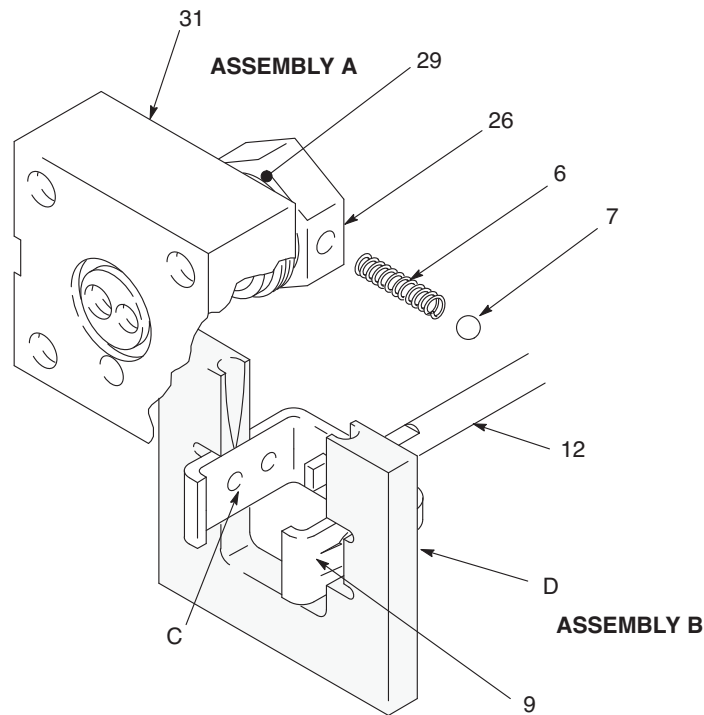

FIG. 11
13. Lay Assembly A and Assembly B on the work bench. (FIG. 11)
14. Slide Assembly B into the center of the tool (D). Align the upper detent holes (C) of the guide yoke (9) with the center line of the tool (D). (FIG. 11)
15. Insert the spring (6) and one ball (7) into the valve stop (26) of Assembly A. Tilt the valve stop, and start guiding it into the tool (D), making sure the ball is sliding into the rounded slot in the tool (D). Place the other ball at the other end of the spring, and push it in with your thumb while rotating the valve stop (26) until the spring is horizontal and the balls are in place. Continue holding this assembly together. (FIG. 11)
16. Slide the valve stop assembly down onto the tool. Make sure the balls (7) snap into the upper set of holes (C) in the guide yoke (9), and the curved ends of the guide clamp have engaged the valve sleeve (29) groove. (FIG. 11) Slide the tool (D) back over the rod (12) to remove it.